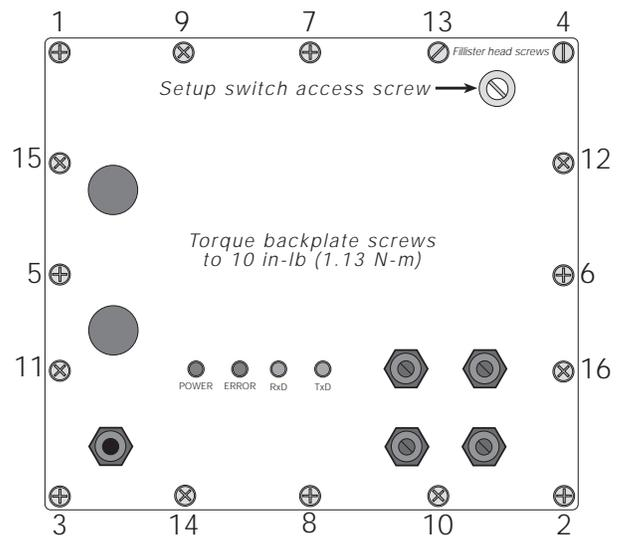

Figure 2-2. IQ plus 510/710 / Profibus Backplate
22. Position the backplate over the enclosure and reinstall the backplate screws. Use the torque pattern shown in Figure 2-2 to prevent distorting the backplate gasket. Torque screws to 15 in-lb (1.7 N-m).
Once wiring and DIP switch configuration (see Section 2.3 on page 6) are complete, position the backplate over the indicator enclosure and reinstall the backplate screws. Use the torque pattern shown in Figure 2-2 on page 3 to prevent distorting the backplate gasket. Torque screws to 10 in-lb (1.13 N-m).
Four LEDs on the IQ plus 510/710 backplate provide status information for the operator (see Figure 2-2 on page 3). Table 2-9 summarizes the function of the LEDs. See Section 4.1 on page 16 for more troubleshooting information.